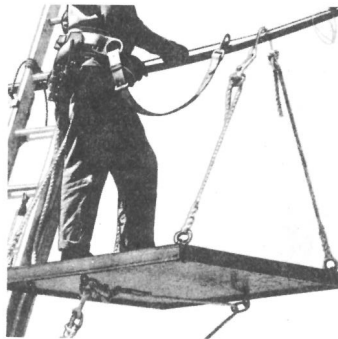

FIGURE 3. Method of Using Safety Strap When Working from Aerial Platform
- c. Engage the other snap hook on the suspension strand. See Figure 3.